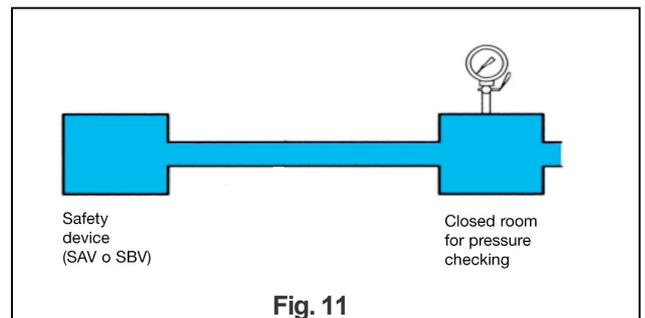

Fig. 11
B) For the devices not equipped with "push" valve, it is recommended to connect separately the control head at a controlled auxiliary pressure and repeat the operations described above (Fig. 11).